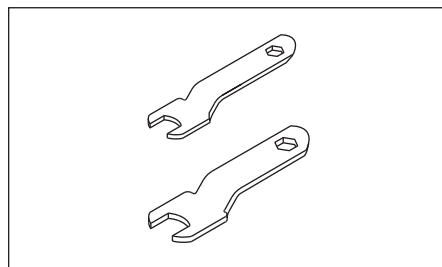

Figure 3 - Wrenches
2. Securely tighten collet with wrenches (supplied with some models) (See Figures 3 & 4). Apply one wrench to the collet nut and the other to the spindle. Turn the wrench on the collet nut to the right, simultaneously turning the other wrench in the opposite direction. Make sure stem does not slip out of position.